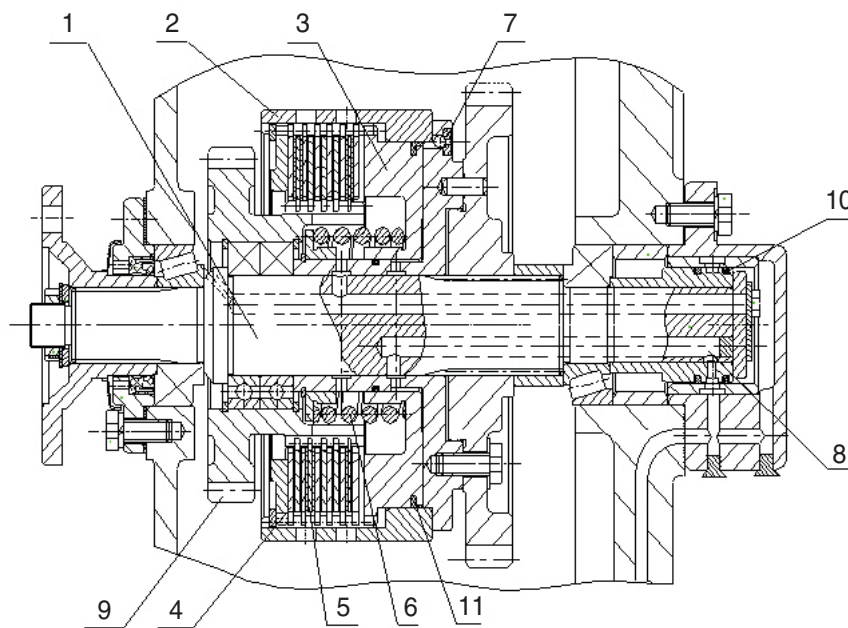

Figure 4 Diagram of hydraulic clutch
(1) Hydraulic clutch
Transmission's input shaft assembly, countershaft assembly and reverse shaft assembly have similar construction, each of which has a key unit, hydraulic clutch, with the same construction. Figure 4 is a diagram of hydraulic clutch. This unit consists of drive shaft (1), clutch case (2), piston (3), powder metallurgy friction plate (4), friction plate (5), return spring (6), drain valve (7). Hydraulic oil from transmission's control valve is directed to the tube inside the case and large end cover, then into the way (8) of drive shaft (1), then piston cavity, pushing the piston forward to press the active and passive plate (4) and (5). Therefore, drive shaft (1) rotates along with gear (9), hydraulic oil is cut off, drain valve opens, the piston quickly returns by the force of spring (6), active and passive plate part, and gear (9) idles.